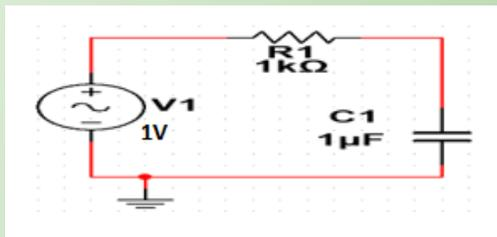

Figure 3.2.1
1. By using multisim online simulator, sketch the same circuit as in figure 3.2.1, measure the input voltage V_{in} and the output voltage V_{out} with the frequency of 1KHz, 5KHz, 10KHz, 20KHz, 30KHz and 50KHz. Then draw the a graph of Gain (A_v) Vs Frequency